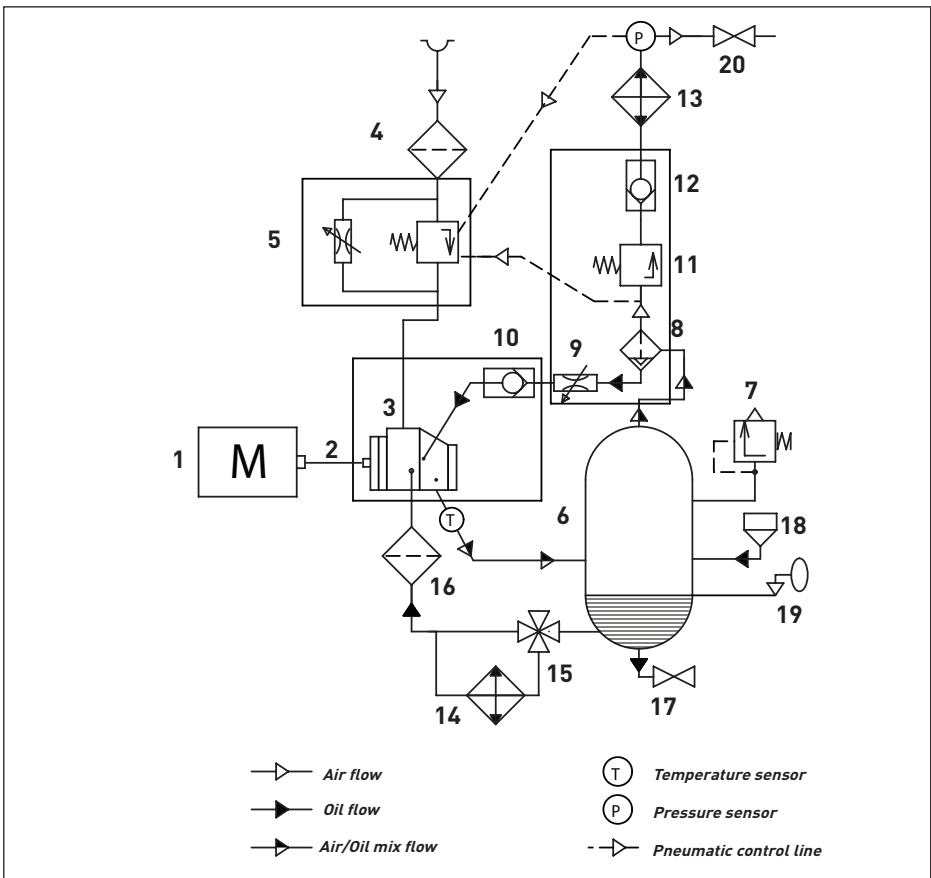

Fig. 2.3 Function diagram D11 - D22
2.4 Functional description (see Fig. 2.3)